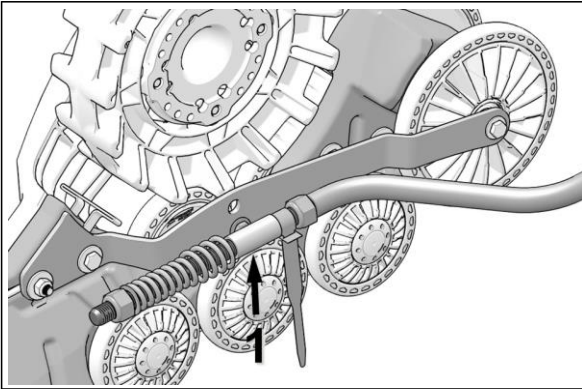
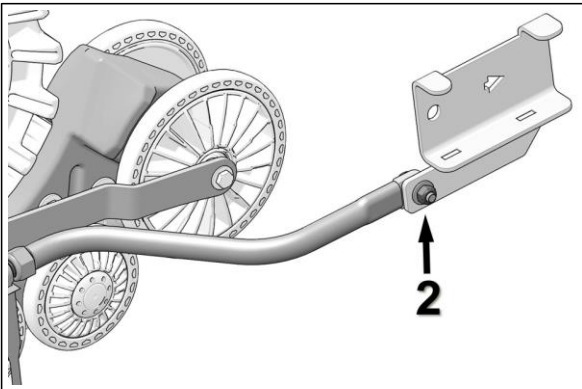

Figure 7
Figure 8
- Stabilizing arm must be attached to Track System (1) and to rear anchor bracket (2) installed on vehicle. See Figure 7 et la Figure 8.